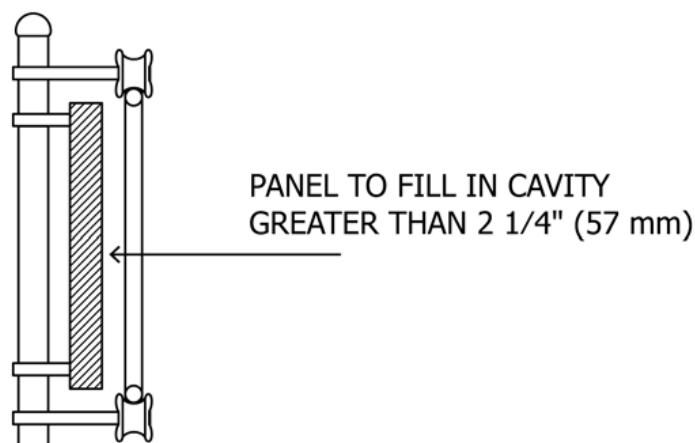

FIG. 1 Vehicular Horizontal Slide Gate – Section View
- 6.1.3 A gap, measured in the horizontal plane parallel to the roadway, between a fixed stationary object nearest the roadway (such as a gate support post) and the gate frame when the gate is in either the fully open position or the fully closed position, shall not exceed 2 1/4 in. (57 mm). **See Fig. 1.**